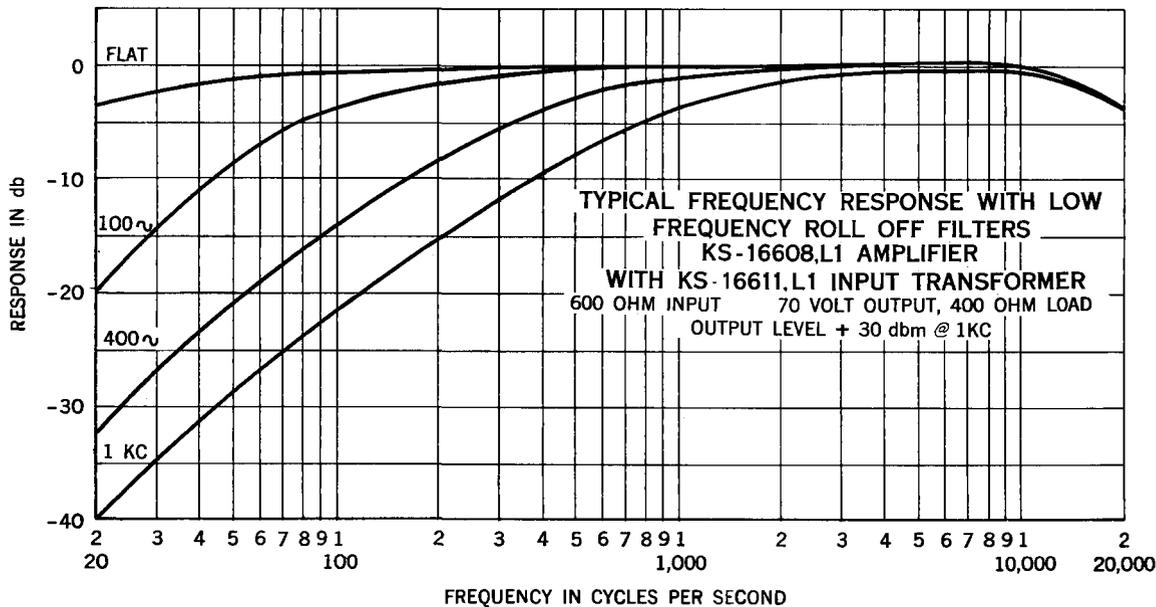

Fig. 10 – Frequency Response with Transformer and Low Frequency Roll-Off
6.07 Fig. 10 shows the frequency response of the amplifier with various options for low frequency roll-off filters. The amplifier is equipped with a plug-in transformer. In most situations the amplifier will be equipped with a transformer. The need for roll-off filters has been discussed previously.